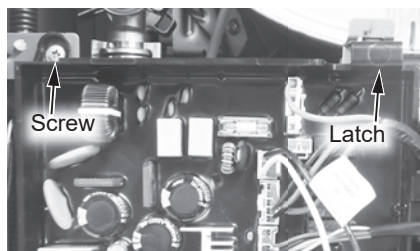

Figure 228 - Control Board screw location
- 10 Reinstall the cartridge to the water heater. Insert the cartridge into manifold and secure with the two (2) long screws and one (1) short screw previously set aside in **Step 6**.
- 11 Insert and snug all three (3) screws by hand. Use a screwdriver to tighten the two (B) screws first and lastly tighten screw (A). **DO NOT** use a drill or impact driver to tighten the screws.
- 13 Locate the two (2) screws at the bottom of the cabinet cover. Use a Phillips screwdriver to remove the screws. Place screws aside in a safe place for reinstallation.
**15** Locate the screw securing the control board panel. Use a Phillips screwdriver to remove the screw and place it aside in a safe place for reinstallation. See Figure 228.